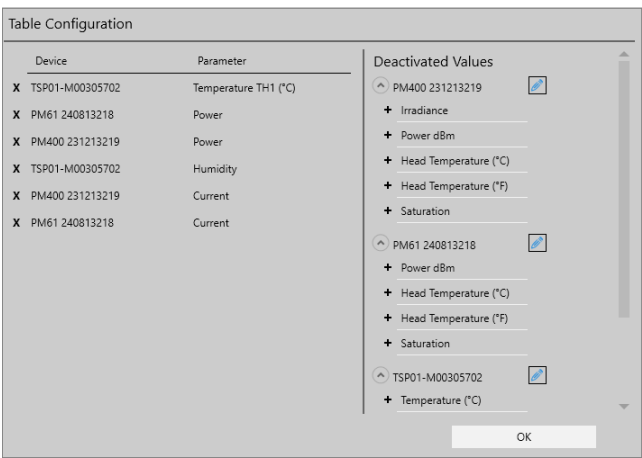

Figure 18 Table Configuration Window in the Devices (Table) Panel
1. Configure the devices and parameters to be monitored in the Logging Chart by clicking the *Settings* button, then using the (+) and (x) buttons in the Table Configuration window (see Figure 18).